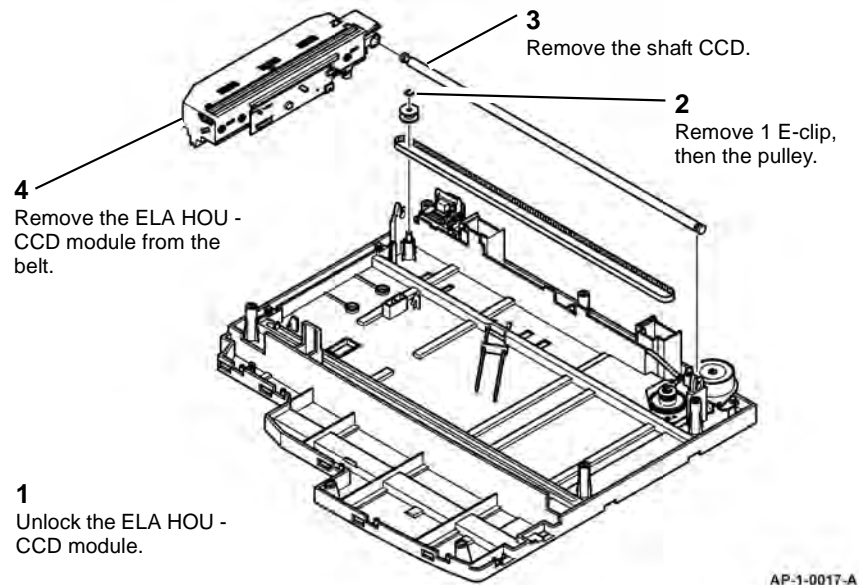

Figure 15 ELA HOU - CCD module removal
17. Remove the ELA HOU - CCD module, Figure 15.